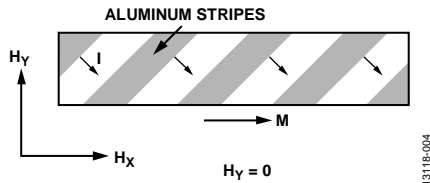

Figure 4. Barber Pole Effect in a Permalloy Strip
A common method used to improve both the linearity and polar insensitivity of the permalloy strip is to add aluminum stripes angled at 45° to the strip axis called barber poles, as shown in Figure 4. Any current flowing between barber poles takes the shortest path, the perpendicular path, and the angle between the current flow vector (I) and magnetization vector (M) shifts by 45° .